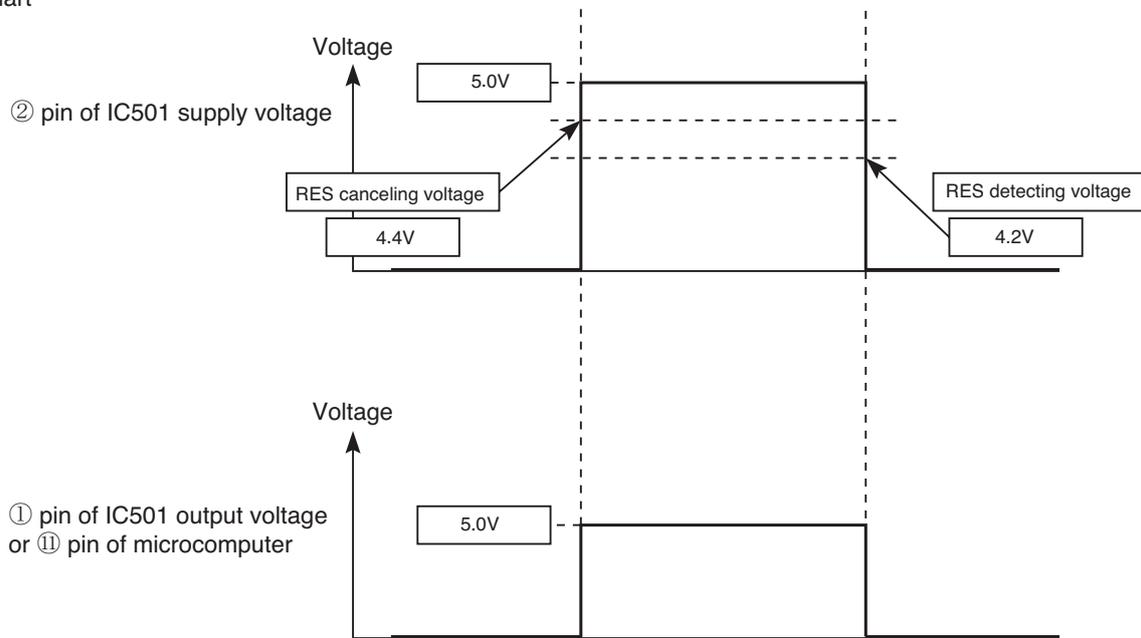

Fig.2-2
- Microcomputer operates when ⑪ pin of the indoor unit microcomputer (reset input) is "Lo" for resetting and "Hi" for heating.
- Waveform of each part when switching ON the power and when shutting down is shown in the Fig. 2-2.
- After switching ON the power, ① pin of IC501 supply voltage and ⑪ pin of microcomputer becomes Hi when DC5V line rises and reaches approximately 4.4V or higher. Then, resetting will be cancelled and microcomputer starts operating.
- After shutting down the power, ① pin of IC501 supply voltage and ⑪ pin of microcomputer becomes Lo when DC5V line falls and reaches approximately 4.2V or lower. Then, the microcomputer will be in reset condition.